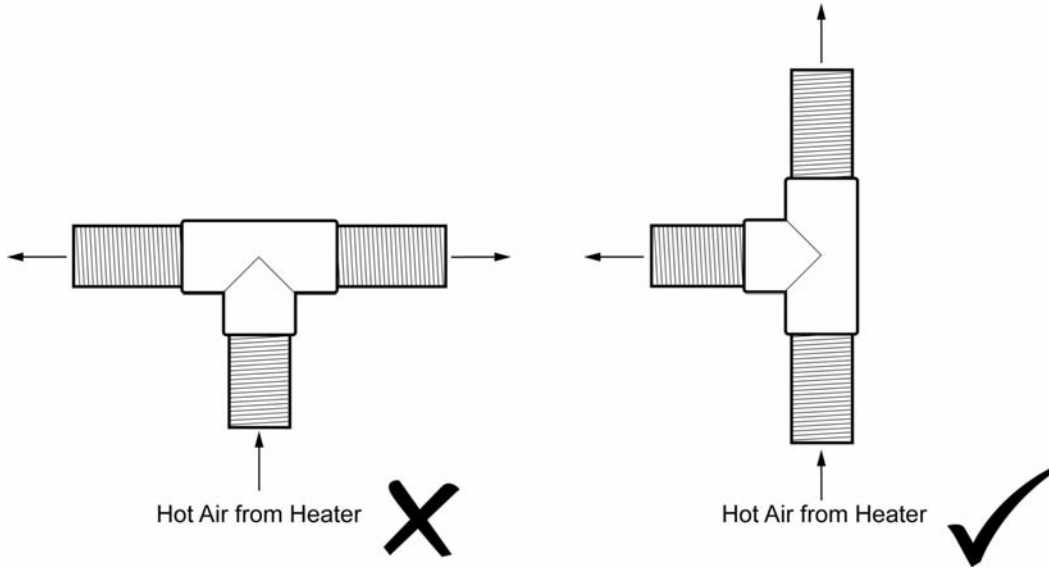

Fig. 14 - Tee Fitting Orientation
**Important:** At least one hot air outlet vent is to be permanently open on each branch of ducting. The hot air duct should not be fed into the centre branch of a tee fitting, as per Fig. 14.